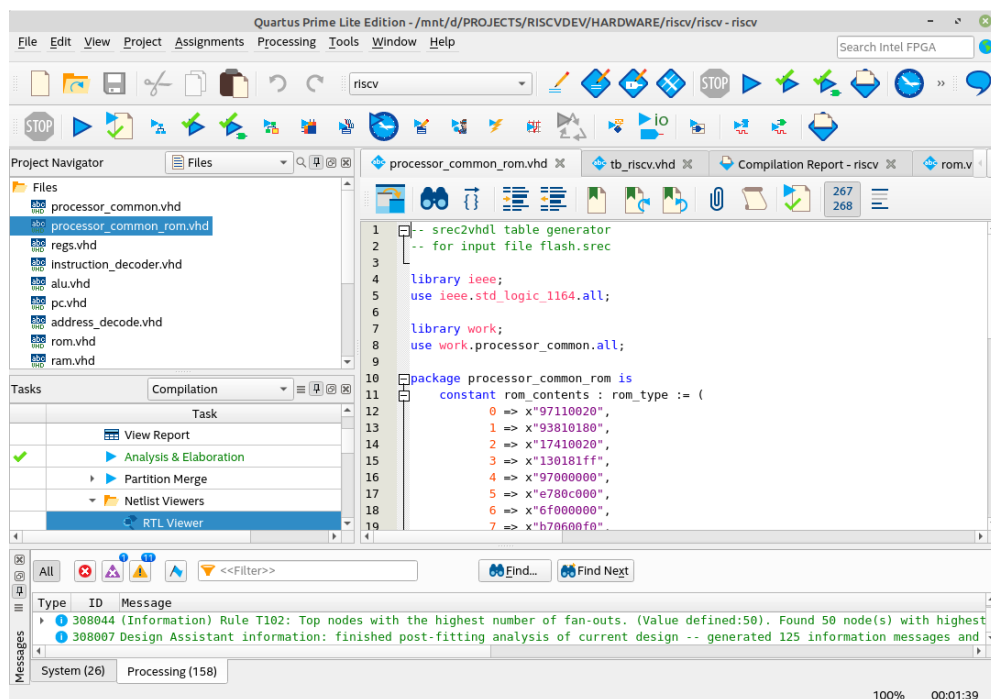

Figure 6: Image of the Quartus project (1).
- Now start the compilation of the VHDL code in Quartus Prime Lite and program the compiled file. This file has the extension `.sof`. See Figures 6 to 8.